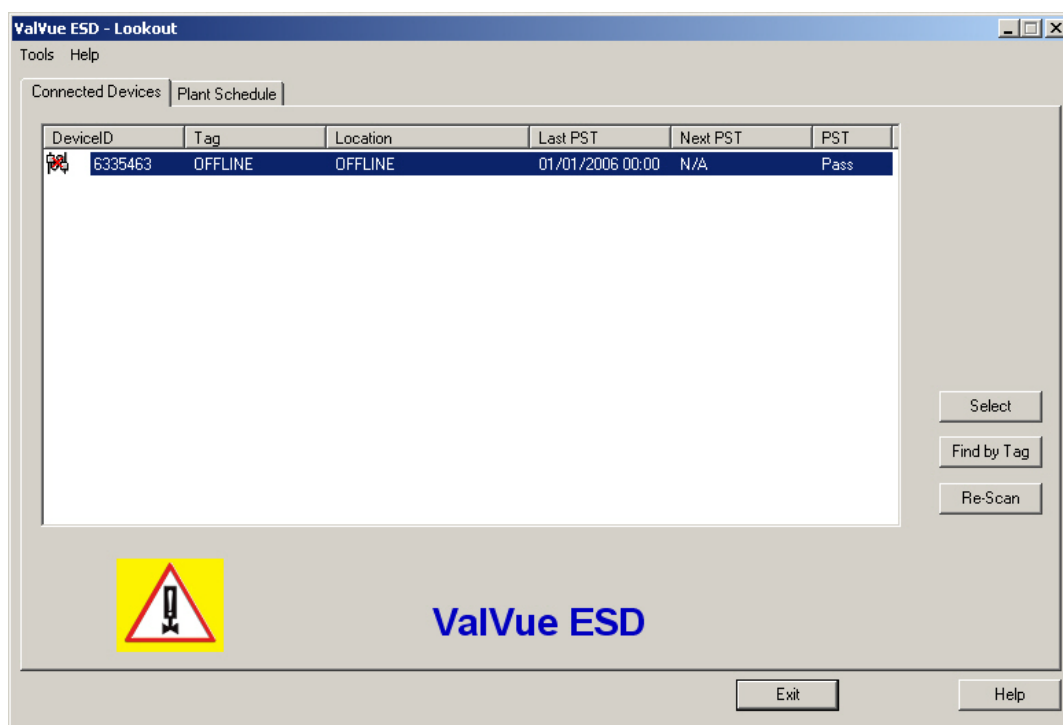

Figure 53 - Selecting an Offline Device
After the initial device scan executed when you launch ValVue ESD, the *Connected Devices* screen automatically appears and shows any devices found connected during the scan. Notice in Figure 53 that the offline device was found.
- Click on the device name to highlight and then click on **Select** (Figure 53).